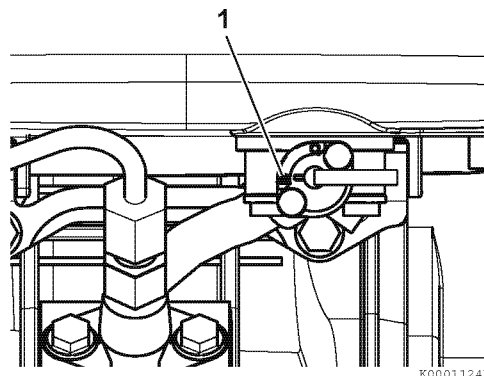

Figure 23
1. Move the fuel cock lever to the closed position (1, **Figure 23**).